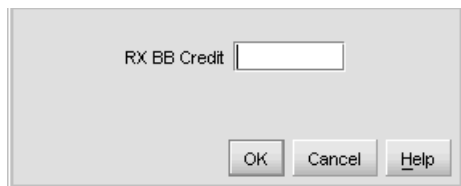

Figure 28 RX BB Credit dialog box
- a. Right-click in the RX-BB Credit column to display the RX BB Credits dialog box as shown in Figure 28: